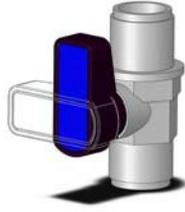

Figure 7: Shut-Off Valve (Shown Open)
- Ensure the Shut-off Valve is in the ON position (See Fig. 7).